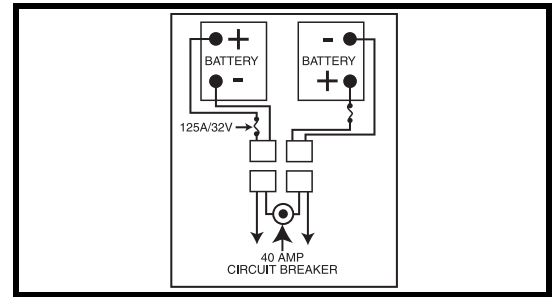

Figure 13A. Battery Cable Orientation
7. Connect the red battery cable to the positive (+) battery terminal on each battery. See figure 13A.